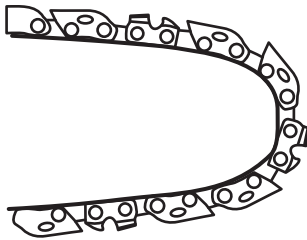

Fig. 9b
- c). Check the chain tension using one hand to lift the saw chain (D6) against the weight of the product. The correct chain tension is achieved when the saw chain can be lifted by approx. 2-4mm from the guide bar (D7) in the centre. (See Fig. 9b, 9c)